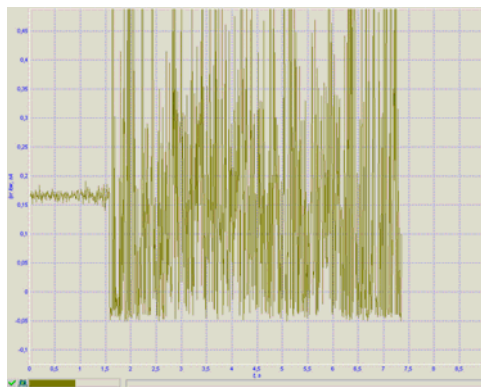

Fig. 3-19. Generation
- The beginning of excitation is detected by a sudden rise in the **Mag** signal a.c. component (Fig. 3-19).